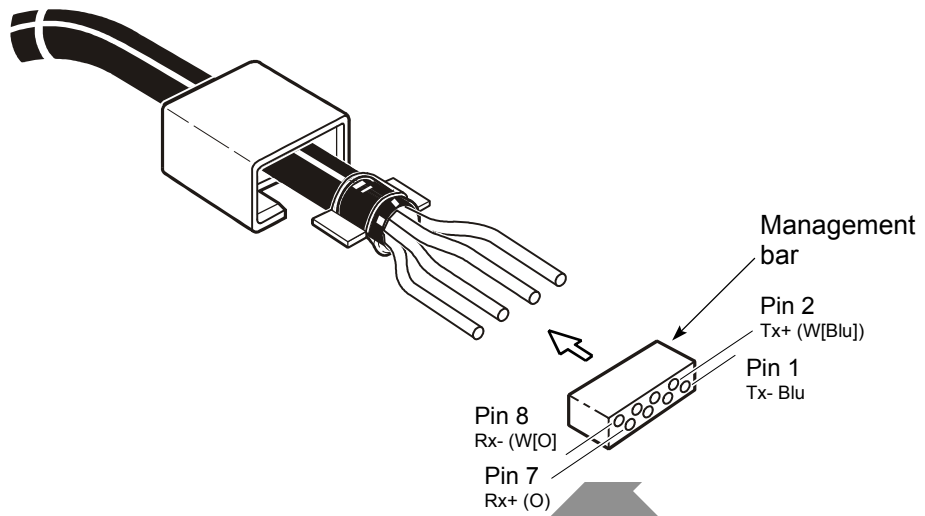

Figure 41 – Inserting the conductors into the management bar
9. Insert the conductors into the management bar, as shown in Figure 41. Table 25 identifies the pin and signal assignments. The LEMO connector is installed as part of Procedure 9-7.